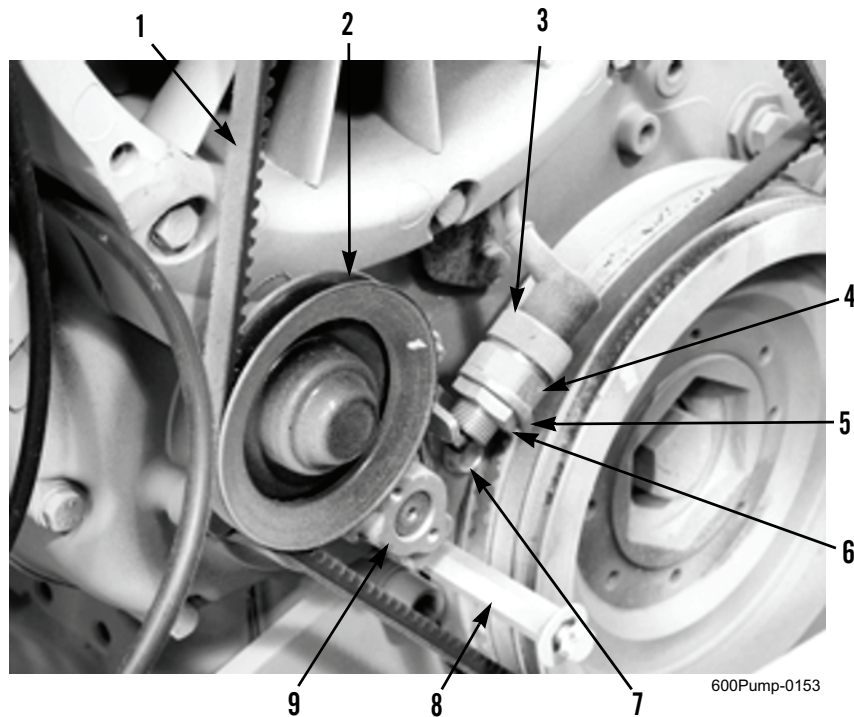

Figure 1. Cooling Fan V-Belt Shutdown Switch.
1. Push inward and upward on tensioner pulley assembly (Figure 1, Item 2) and remove cooling fan V-belt (Figure 1, Item 1).
2. Remove cable end connector (Figure 1, Item 3) from switch (Figure 1, Item 4).
3. Remove nut (Figure 1, Item 6) and switch (Figure 1, Item 4) from bracket (Figure 1, Item 5).
4. If necessary, remove bolt (Figure 1, Item 7), hex bolt (Figure 1, Item 8), and bracket (Figure 1, Item 5) from tensioner (Figure 1, Item 9).
1. If removed, install bracket (Figure 1, Item 5) on tensioner (Figure 1, Item 9) with bolt (Figure 1, Item 7) and hex bolt (Figure 1, Item 8).
2. Install cable end connector (Figure 1, Item 3) on switch (Figure 1, Item 4).
3. Install switch (Figure 1, Item 4) on bracket (Figure 1, Item 5) with nut (Figure 1, Item 6).
4. Push inward and upward on tensioner pulley assembly (Figure 1, Item 2) and install cooling fan V-belt (Figure 1, Item 1).